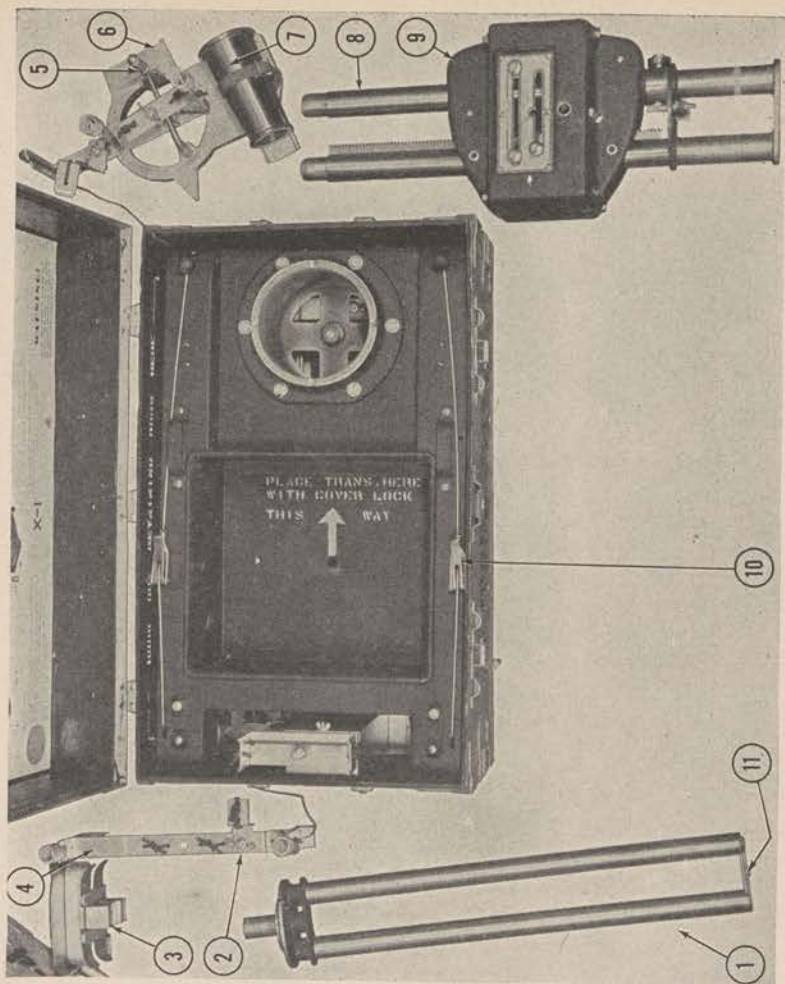

Figure 23. Chest MD X-1, old type, top section removed.
(1) *Old type, 9609005.* (a) Open the chest and remove the cross arm assembly (See fig. 23, part 1.) Loosen the two wing nuts and turn the two right-angle brackets under them counter-clockwise. Take out the cross arm assembly and place it aside temporarily.
(b) Remove the cross arm carriage (fig. 23, part 9) and the bottom mast section (fig. 23, part 8) in the following manner: loosen wing nut and revolve the plate under it through 90°. Remove wing nut, lift off the retaining bracket (fig. 23, part 4) and place this bracket just outside of the left-hand side of the chest as shown in figure 23. Remove the cross-arm carriage and the lower mast section and place it aside temporarily.
(c) Lift the aluminum bracket (fig. 23, part 6) which holds the crank, cone, and packing brackets just referred to out of the well of the base and place it alongside of the chest temporarily.